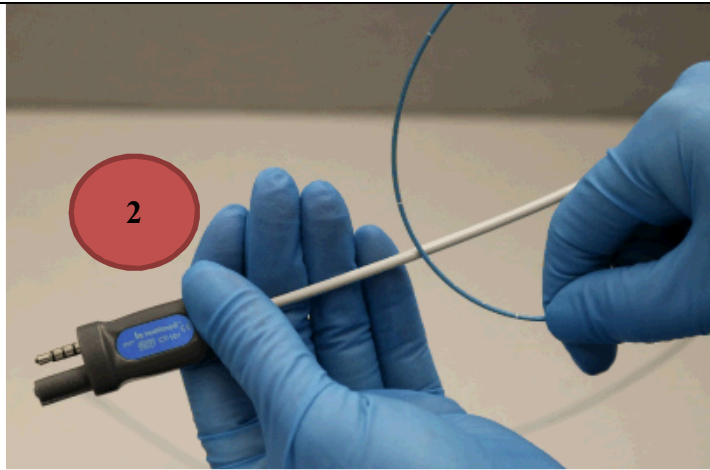

Figure 6
2. Flexible Working Length (Fig. 6).